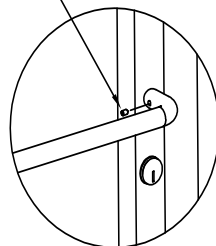

Figure 14
- Set push bar onto the conehead fastener. Insert set screw and tighten. See Figure 14. (Hardware kit - P1553)
- Set push bar onto the conehead fastener. Insert set screw and tighten. See Figure 14.
- Set pull P1567 onto the conehead fastener. Insert set screw and tighten. See Figure 14.